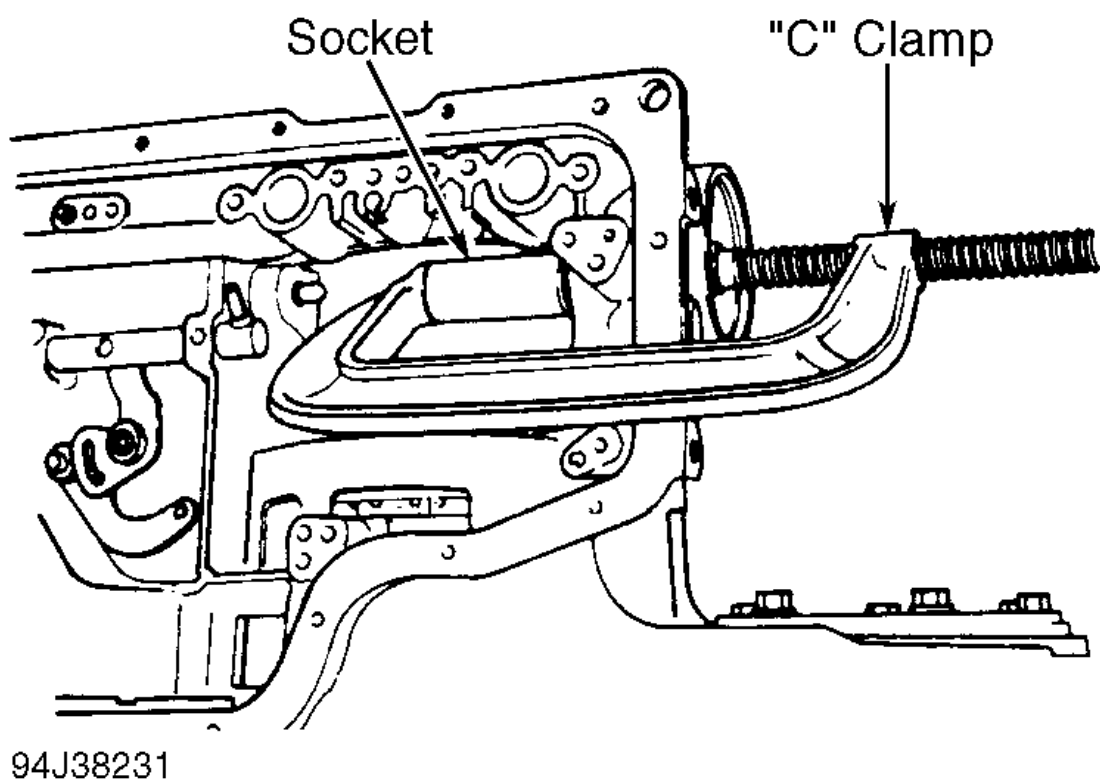

Fig. 2: Compressing Band Apply Servo
3. Loosen band adjusting stop and band adjusting stop nut. Remove band strut. Using "C" clamp and socket, compress servo piston into transaxle case. See Fig. 2 . Remove snap ring. Remove servo retainer, servo piston and spring.
1. Lubricate servo piston with ATF. Assembly servo retainer, piston, piston large seal and spring. Insert assembly into transaxle. Using "C" clamp and socket, compress assembly and install snap ring. See Fig. 2 . Install band strut to intermediate band. Install band adjusting stop to band and tighten to 9-10 ft. lbs. (12-15 N.m). Loosen adjusting stop 3 turns. Install and tighten band adjusting stop nut. See TORQUE SPECIFICATIONS .